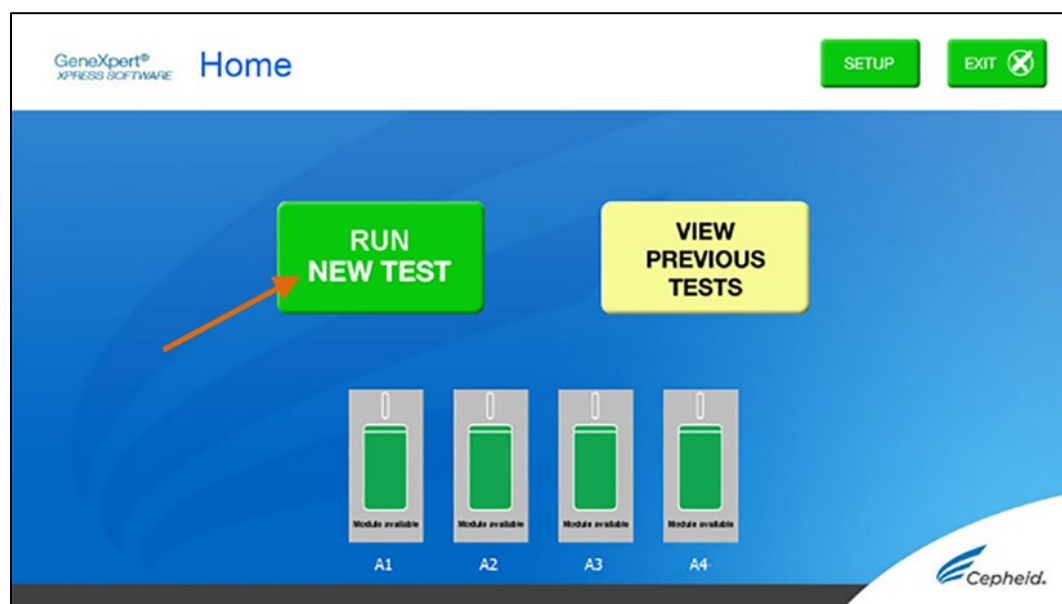

Figure 8. RUN NEW TEST button on Home Screen (GeneXpert Xpress IV screen shown)
1. Put on a new pair of gloves if performing a new test. Touch the **RUN NEW TEST** button on the Home screen (see Figure 8) to run a patient specimen or an external control.